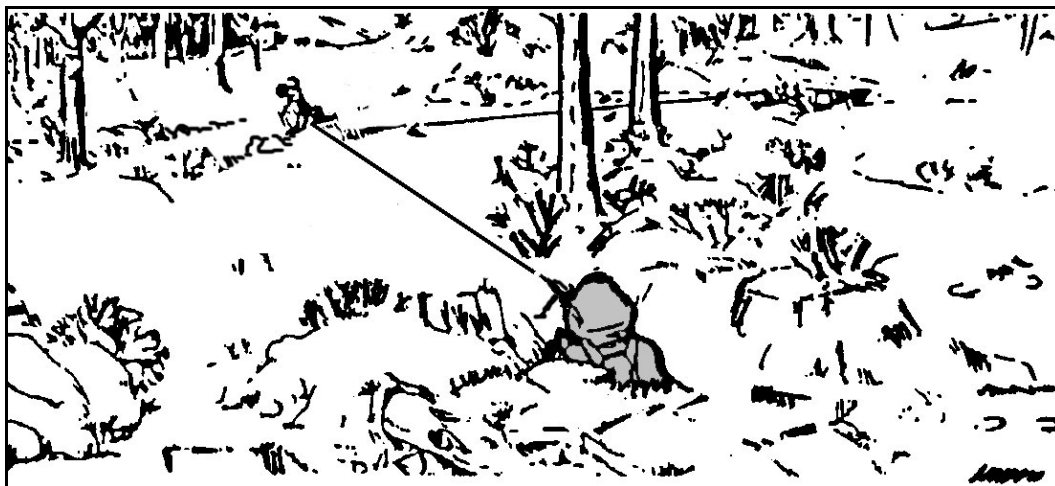

Figure 5-10. Engagement of point target.
(1) *Point Target*. When engaging a point target, the gunner uses fixed fire (Figure 5-10). If the target moves after the initial burst, the gunner adjusts fire onto the target by following its movement.